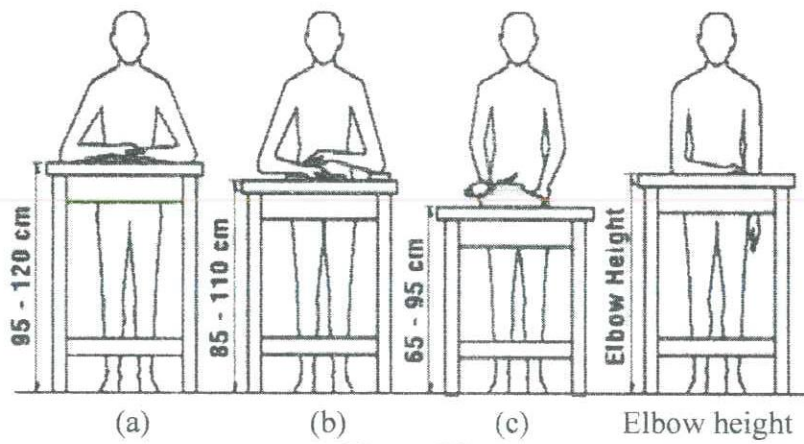

Figure Q2
- c) Three different work table heights (a, b and c) and reference “Elbow height” for a standing worker are shown in Figure Q2. Identify the most suitable working height for heavy work, light work and precision work. Briefly explain your selection.